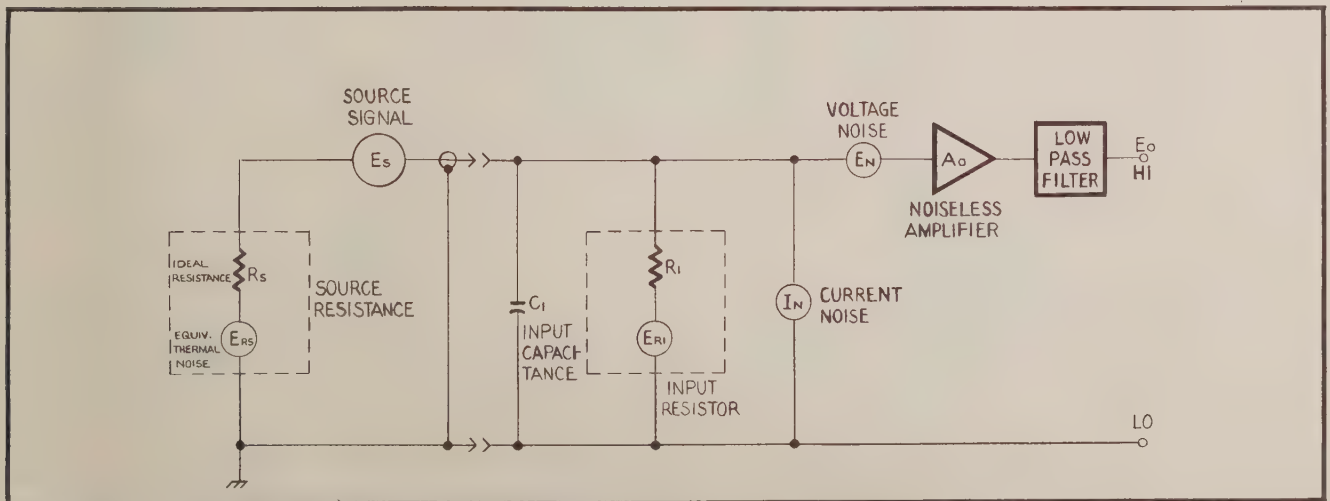

FIGURE 10. Equivalent Circuit For Noise Analysis.
f. Signal-to-Noise Ratio. The Signal-to-Noise Ratio (SNR) is a quantitative expression for the relative amount of noise which would tend to obscure the signal of interest. In order to evaluate the SNR for the amplifier it is necessary to identify all noise sources associated with the amplifier as well as the source itself. For the purpose of evaluating the Model 103 the equivalent circuit of Figure 10 will be used. The Model 103A has been characterized as a noiseless amplifier with the following noise generating or frequency dependent factors.
Using the parameters derived from the equivalent circuit of Figure 10 the NF for the Model 103A can be expressed as follows: (for a 1 Hz noise bandwidth)